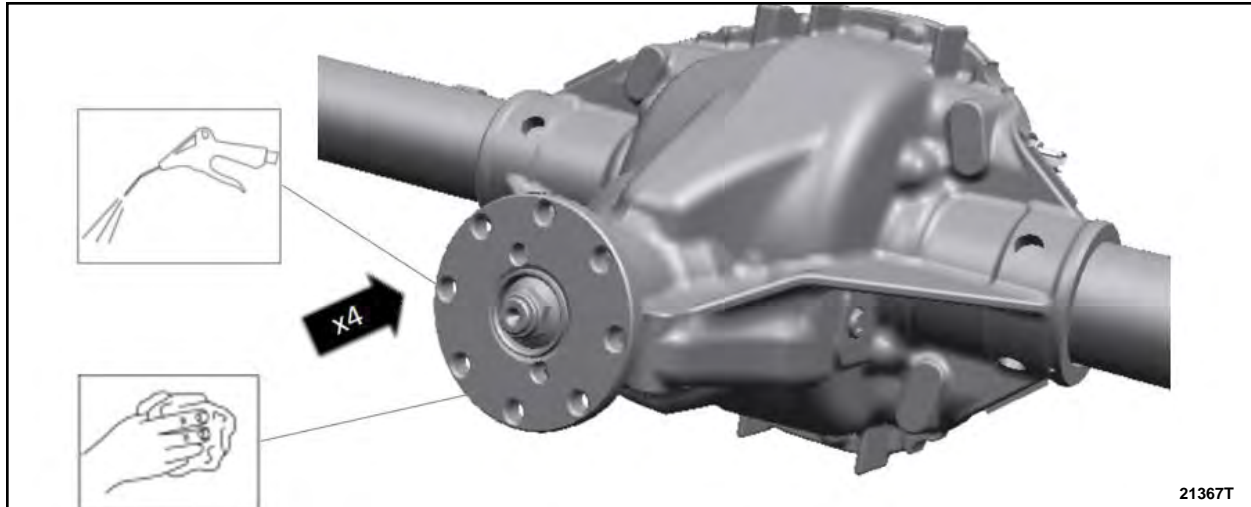

FIGURE 19
22. Using an air blow gun, remove any debris from threaded holes in axle flange. See Figure 19.